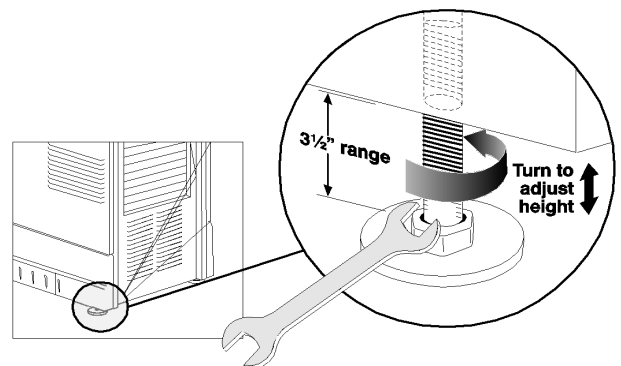

Figure 2-29 Adjust 4 Feet for Tilt and Leveling
Check with theatre personnel for the degree of screen tilt or measure this incline with a protractor at the screen. Then **TILT** the projector to closely match this screen tilt angle (**Figure 2-29**), following the instructions below:
8. If necessary, re-adjust all leveling feet for side-to-side leveling (**Figure 2-29**). Note that you may have to adjust level more precisely once an image is present.